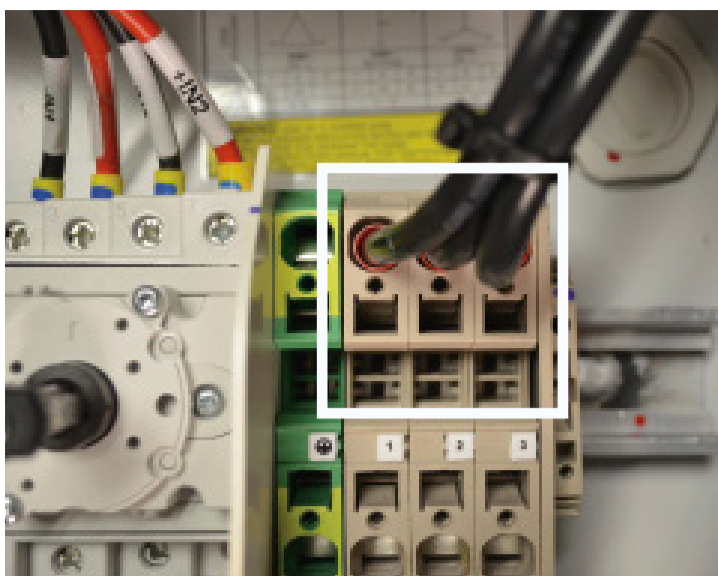

Figure 6
Step 1: Open the inverter wiring box. Disconnect the inverter output conductors from top-side of terminals 1 and 2 by inserting a 1/4" flat screwdriver into the square holes. (The square holes are indicated in Figures 6 and 7.) Lightly press the screwdriver toward the wire slot until the clamp opens.